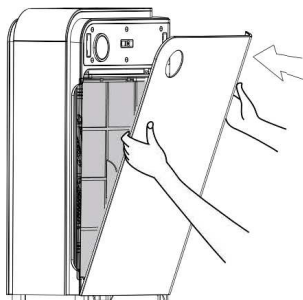

Fig. 7
8. Close the front panel (1) by fixing it properly on the latches along the lower edge of the housing (8) (fig. 7). Ensure the magnetic locks hold the panel properly.